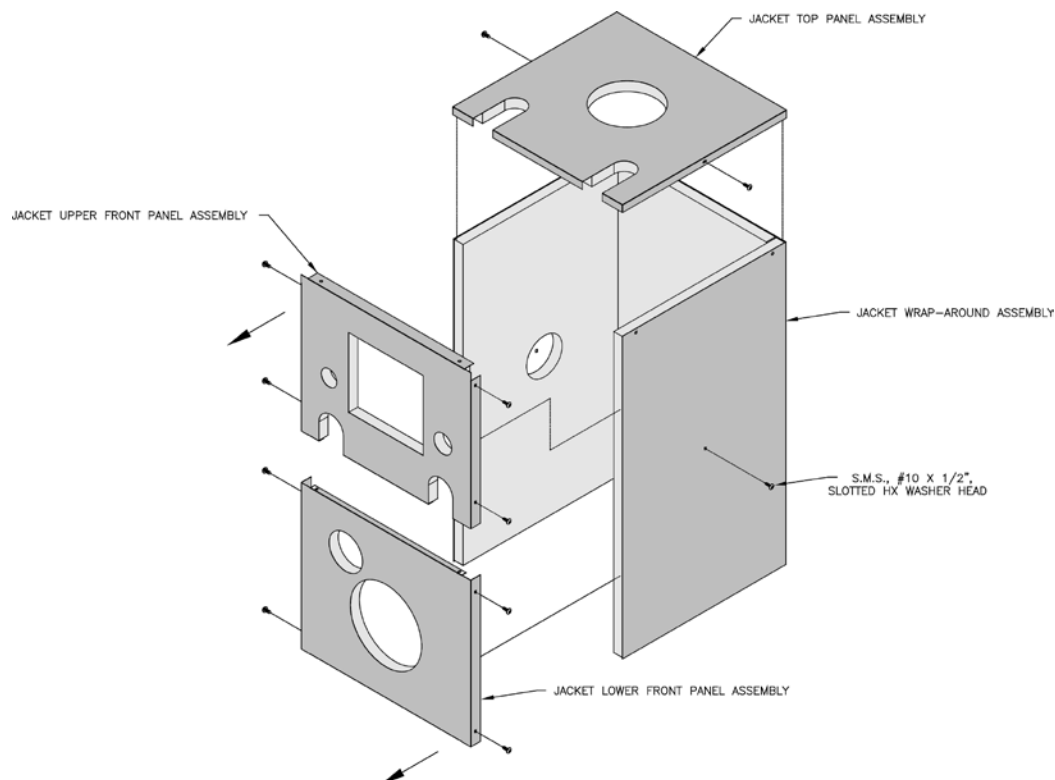

Figure 5: Jacket Installation
2. Install the Wrap-Around jacket panel first. Bend Wrap-Around panel as shown in Figure 5. Attach the bent panel to base using three #10-1/2" slotted hex washer head screws supplied. Engage all screws but do not tighten yet.
4. Attach Lower Front Jacket panel to installed Wrap-Around panel with four #10-1/2" slotted hex washer head screws supplied. See Figure 5.
5. Attach Upper Front Jacket panel to installed Wrap-Around panel with four #10-1/2" slotted hex washer head screws supplied. See Figure 5.
6. Lastly, install Top Jacket panel and secure to installed Wrap-Around panel with two remaining #10-1/2" slotted hex washer head screws. See Figure 5.